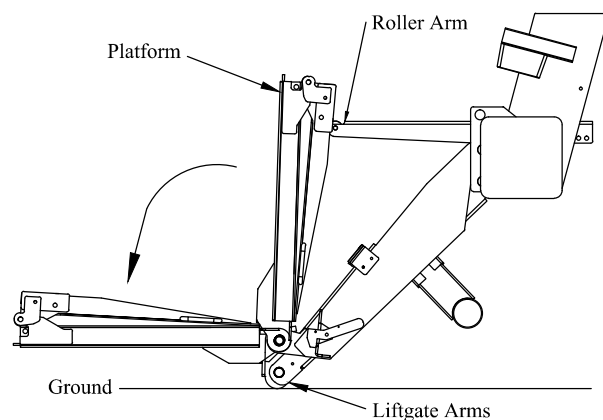

Figure 25: Step 8.
8. With the liftgate arms touching the ground, stand off to the side, and unfold the platform (Figure 25).